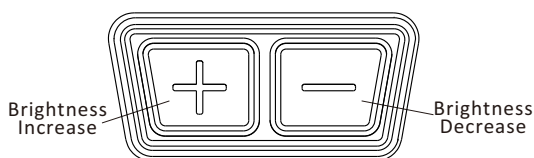

Fig5
**1. Switch on:** Press and release either brightness button ("+" or "-") to turn on the sight, See Fig 5.